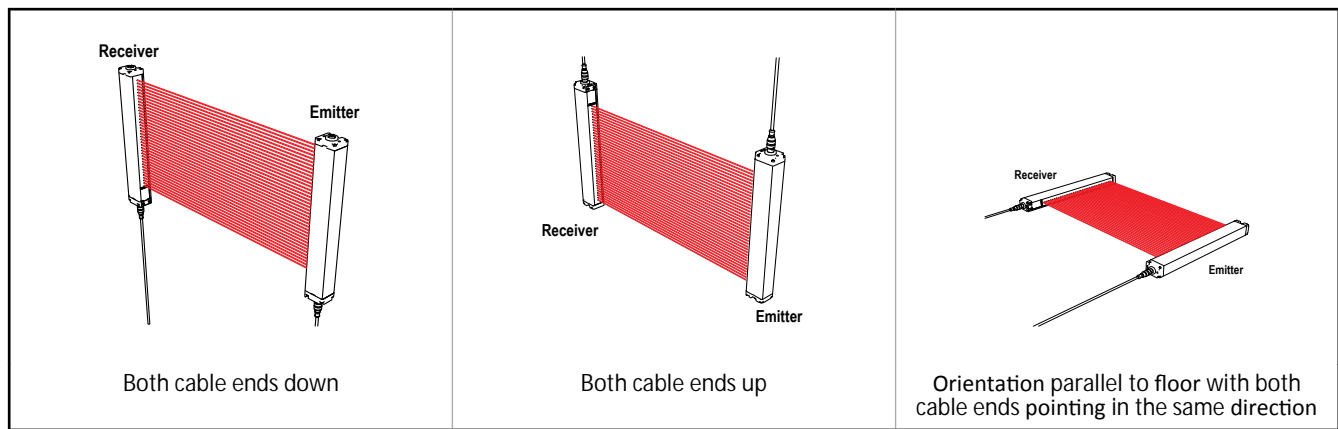

Figure 10. Examples of Correct Emitter/Receiver Orientation
Important: The connector ends of both sensors must point in the same direction (see Figure 10 on page 16). Loosely mount the brackets to the desired surface using the supplied M5 bolts and nuts, or user-supplied hardware. Brackets may face in or out, as desired.
3. Position the emitter and receiver in their brackets, as shown in Figure 10 on page 16. Loosely attach the front bracket plate to the bracket, at each end.
Important: The connector ends of both sensors must point in the same direction (see Figure 10 on page 16).